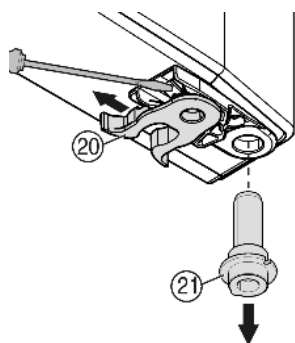

Fig. 9
- ▶ Transfer the spring clamp *Fig. 9 (20)*: Depress the latch nose and pull the spring clamp off over it.
- ▶ Pull the bearing pin *Fig. 9 (21)* out of the door bush and transfer it to the opposite side together with the washer. The latch nose must point to the inner side of the door, the notch to the outer side.
- ▶ Swing the door in at the bottom and insert the bearing pin *Fig. 9 (21)* into the turn hinge. If necessary, turn the bearing pin until it snaps into place.